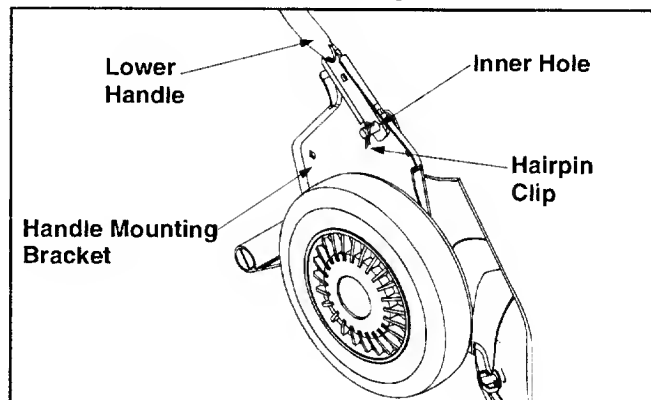

Figure 3
- Remove the hairpin clips from the outer hole in the weld pins on the handle mounting brackets. Using a pair of pliers, squeeze one leg of the lower handle against the handle mounting bracket. Insert the hairpin clip into the inner hole on the weld pin. Repeat on other side. See Figure 3.